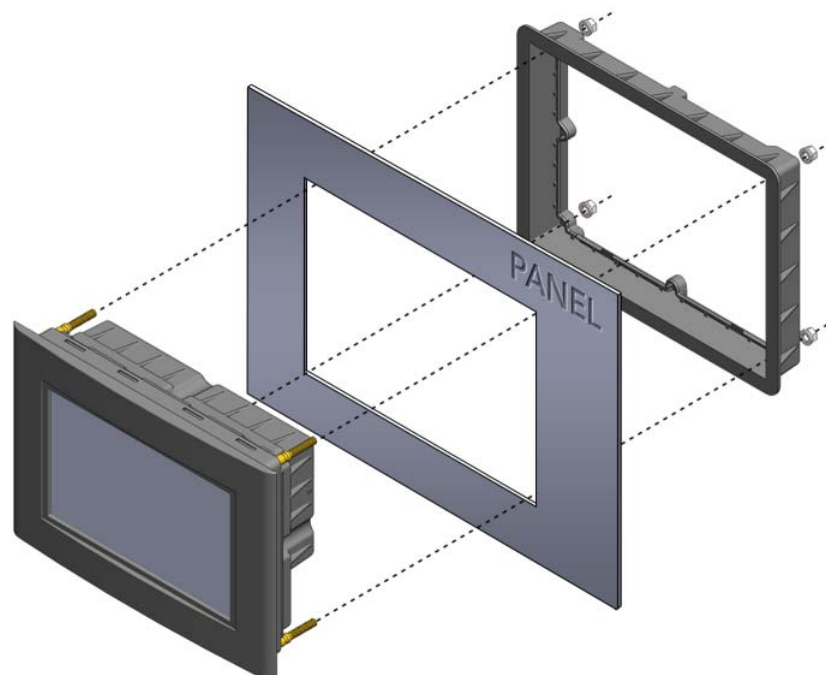

Figure 6
3. On the back of the panel, align the terminal mounting ring holes with the mounting studs, and place the mounting ring against the back of the panel. Refer to Figure 6.